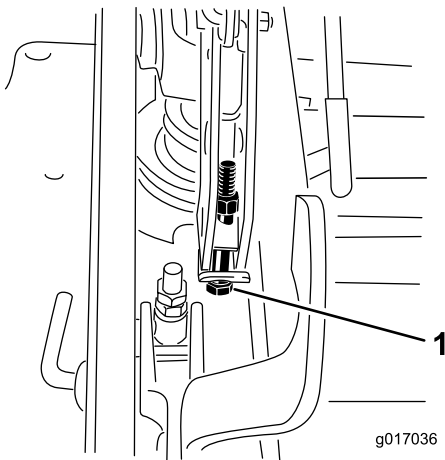

**Figure 88**
12. To adjust the single point system, loosen the two bolts at the bottom of the height of cut plate. Refer to Figure 88.
14. Tighten the two bolts at the bottom of the height of cut plate (Figure 88). Torque to 27-33 ft-lb (37-45 N-m).